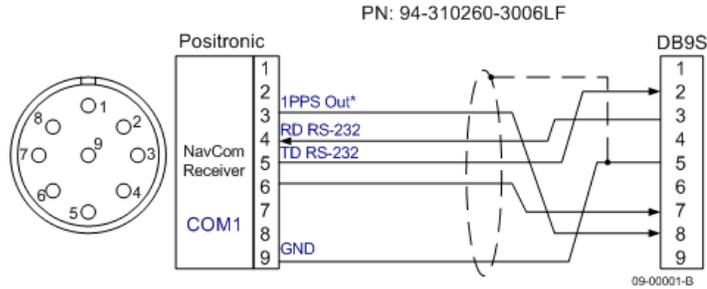
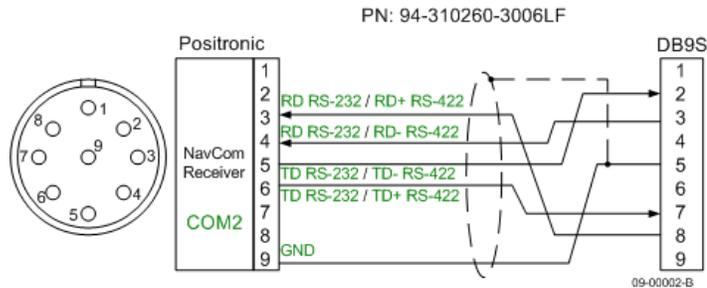

Figure 85: COM1 Serial Cable Pin Assignment
Figure 86: COM2 Serial Cable Pin Assignment
- ✓ Positronic 9-Pin Male to DB9S (RS-232/RS-422/ 1PPS) (P/N 94-310260-3006LF): constructed as described in Figure 85 and Figure 86.